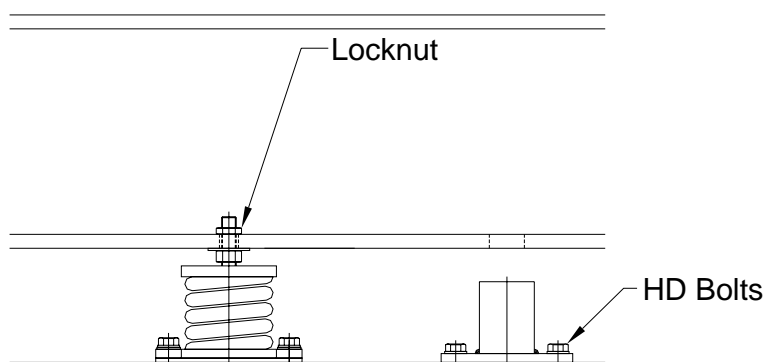

Figure 2
- Isolator screws should then be wound up until contact with machine under base is made. After removal of blocks the machine base can be carefully lowered evenly across supported area, transferring full weight to the isolators. Further machine height adjustment can be achieved by relieving load on isolators and winding adjusting screw up or down, isolator H.D. bolts and top lock nuts should now be fully tightened (See Figure 2). Ensure at least 3 full threads are left protruding below the upper plate.